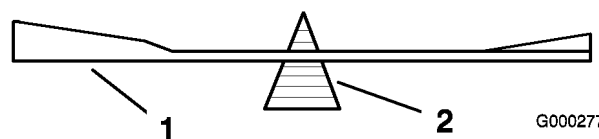

Figure 62
2. Check the balance of the blade by putting it on a blade balancer (Figure 62). If the blade stays in a horizontal position, the blade is balanced and can be used. If the blade is not balanced, file some metal off the end of the sail area only (Figure 62). Repeat this procedure until the blade is balanced.